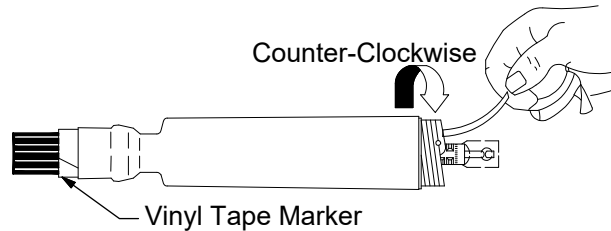

Figure 4
- Re-position the terminator body on the cable and remove the core. Make sure the terminator body (not the core) is butted up to the edge of the vinyl marker tape. While removing the core, unwind it in a counter-clockwise direction. See Figure 4.